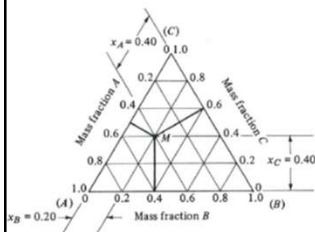

FIGURE 12.5-1. Coordinates for a triangular diagram.
- Triangular coordinates (Fig. 12.5-1/2)